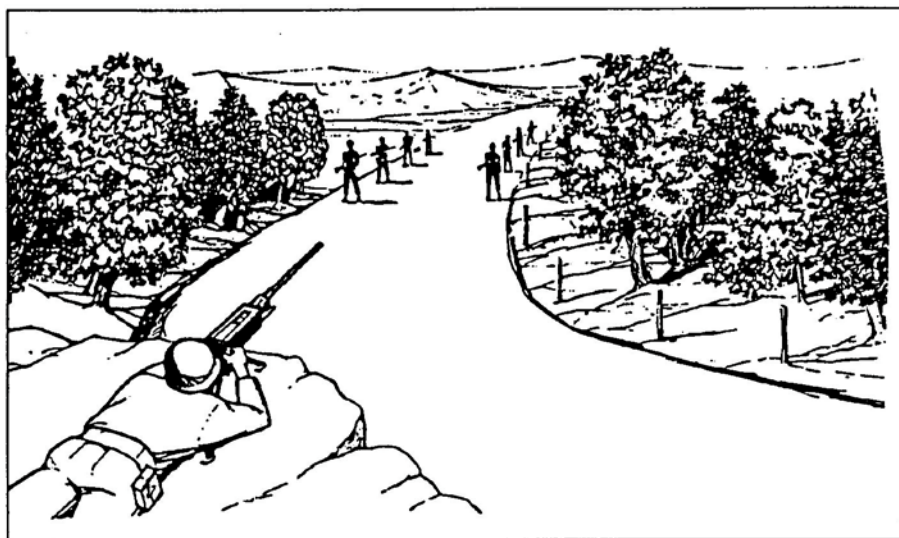

Figure 12. Deep target.
- (4) Deep target. Initially aim at the midpoint of the target, unless another portion of the target is more critical or presents a greater threat. Search down to the near end, then search up to the far end (Figure 12).